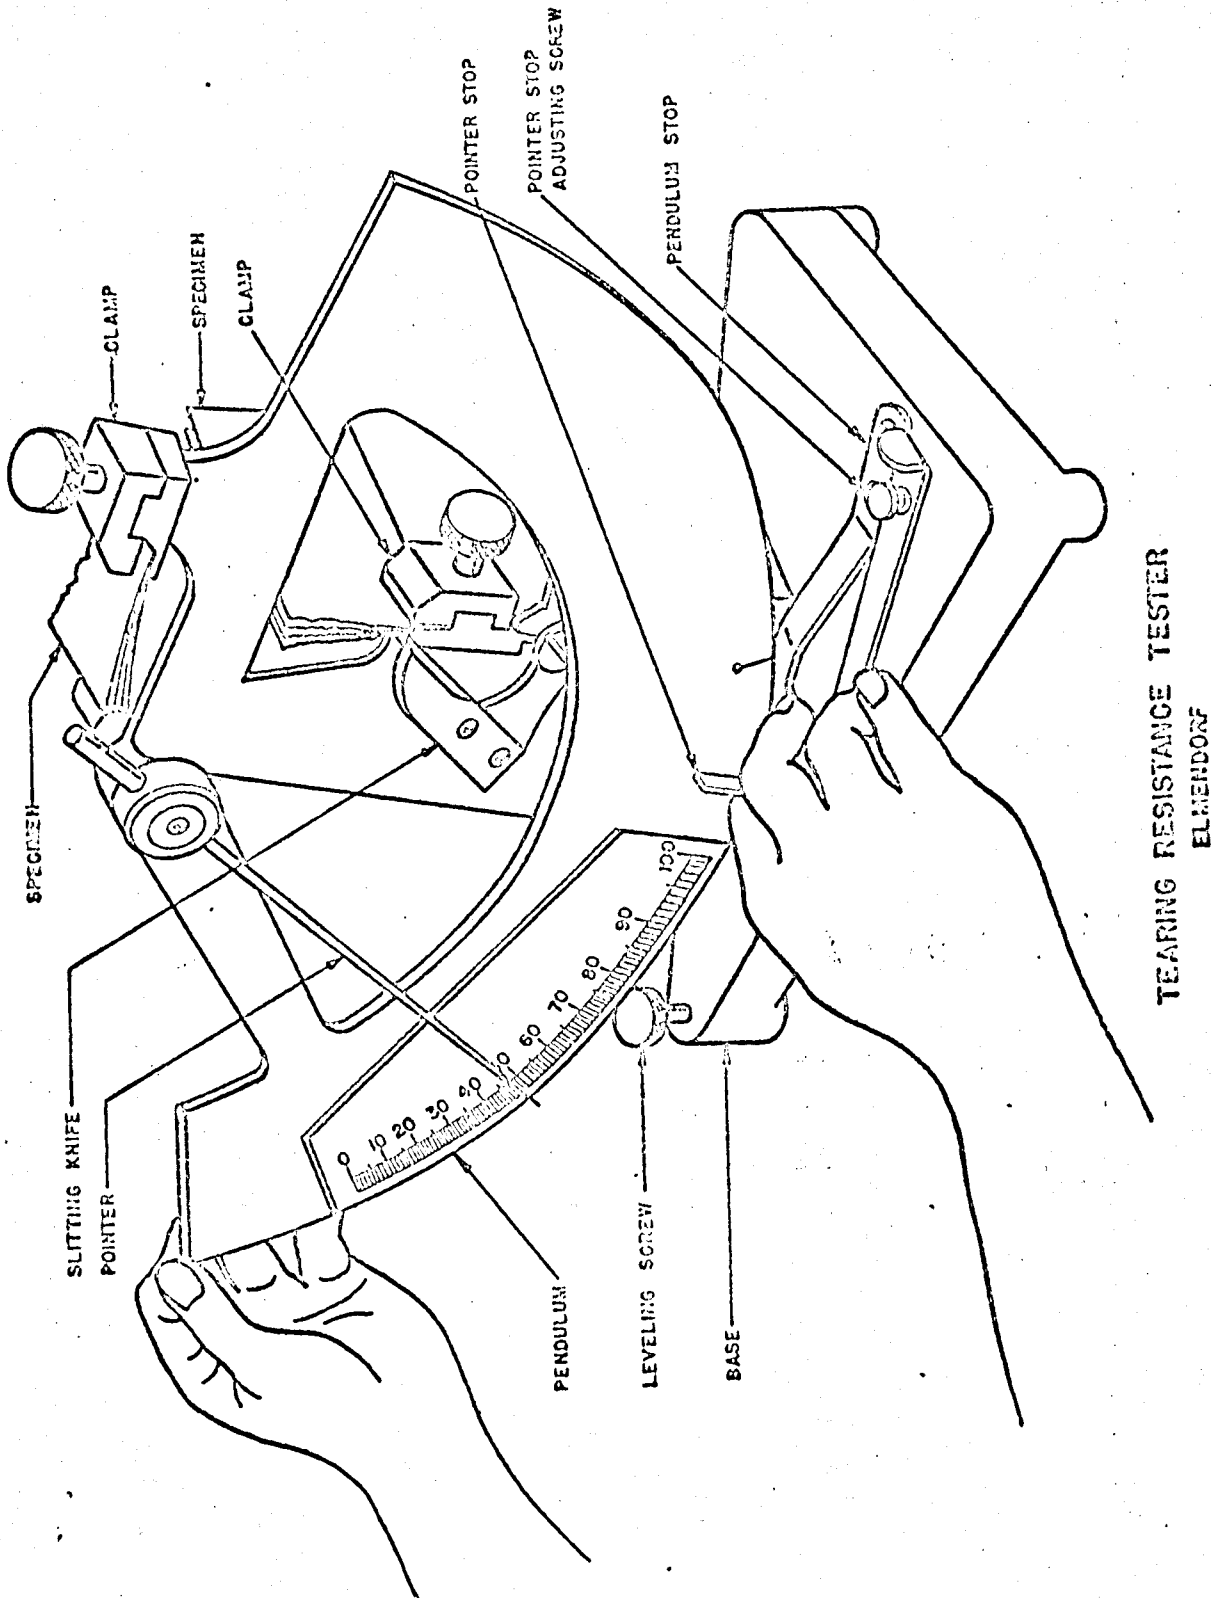

Figure 1
1.4.1 The Elmendorf Tearing Resistance Tester. (See Figure 1)
1.5.1 Place tester on flat surface. Release pendulum allowing full swing before stopping. If pointer falls short or goes beyond zero, make necessary adjustments with leveling screw. Repeat adjustments until pointer stops at zero (Refer to Figure 1).